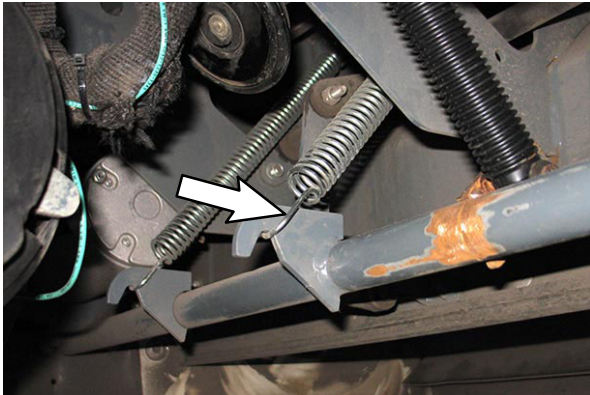
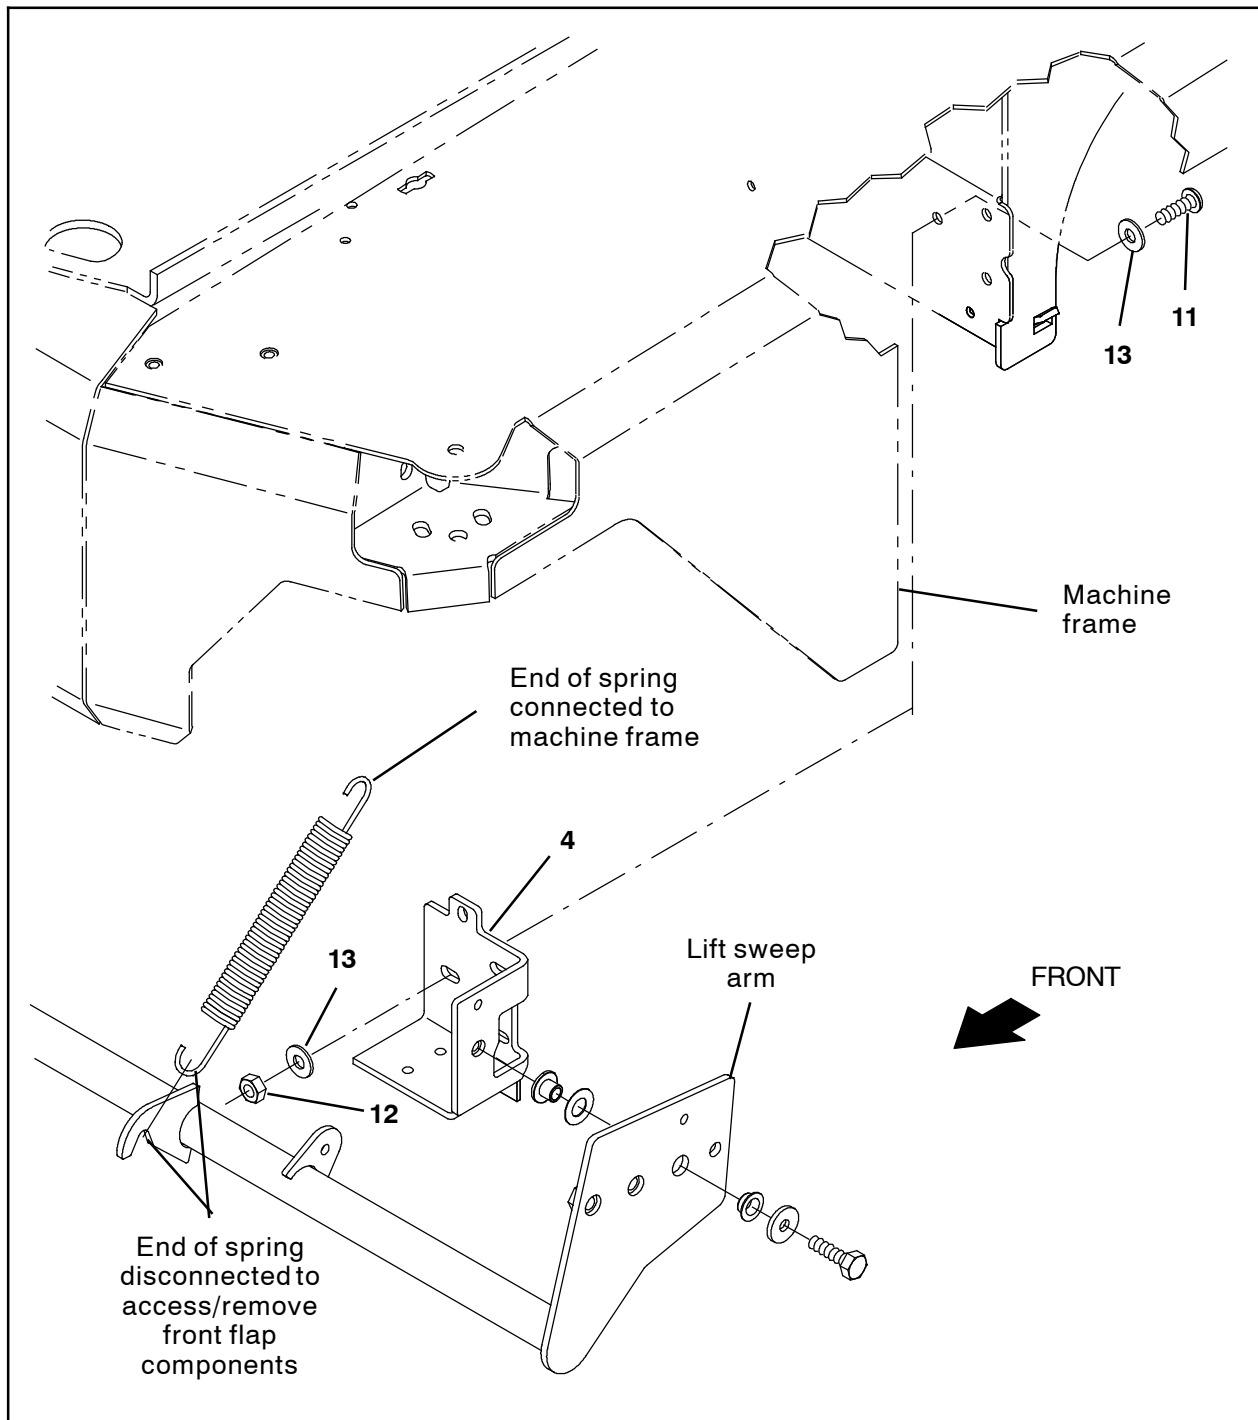

FIG. 8
FIG. 14
10. Disconnect the spring from the lift sweep arm. Leave the other spring connected to the machine. (Fig. 8)
20. Use three M8 button screws (11), six flat washers (7), and three M8 hex nuts (12) to install the left pivot mounting bracket (4) onto the frame of the machine. (Fig. 14)
22. Reconnect the spring to the lift sweep arm. (Fig. 8/Fig. 14)
27. Install the lift sweep arm onto the left pivot mounting bracket (4). (Fig. 14)